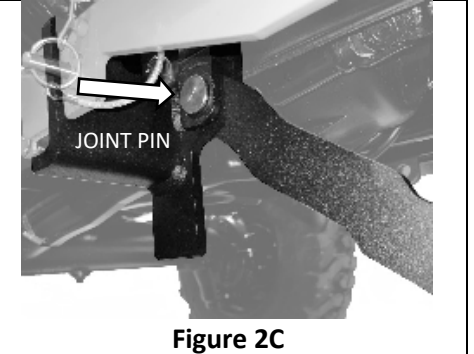

Figure 2C
2. Insert the front portion of the Lift Bar (items 13 & 14) into the slot of the previously installed Tractor Deck Stop Hangers. Align the corresponding holes and secure them using the Tractor Deck Lift Pins (item 9) (figure 2C). Repeat for the opposite side.